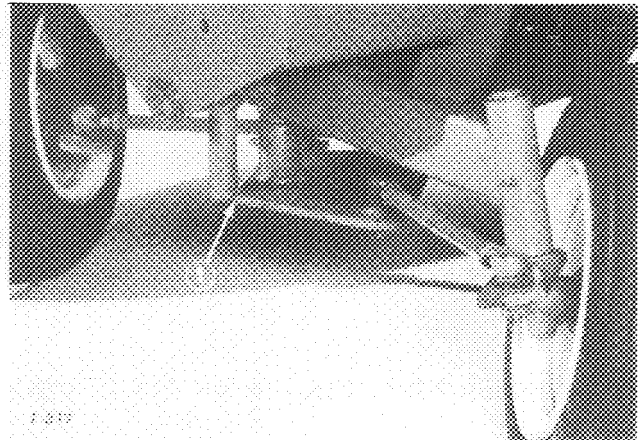
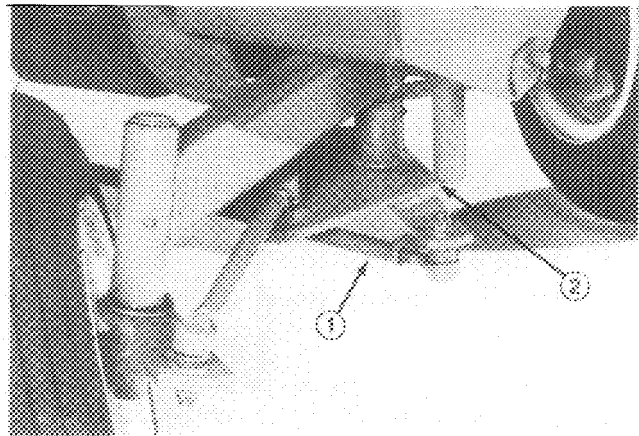

Figure 68
Figure 69
4. Turn steering wheel completely to the right and left, and check steering plate with respect to the stop on rear axle pivot (Fig. 68, 69). Steering plate must contact the stop. If parts do not contact, loosen jam nuts on rear steering rod (Fig. 69). Shorten the rear steering rod until steering plate contacts the stop while steering wheel is locked for a full right turn (Fig. 68).